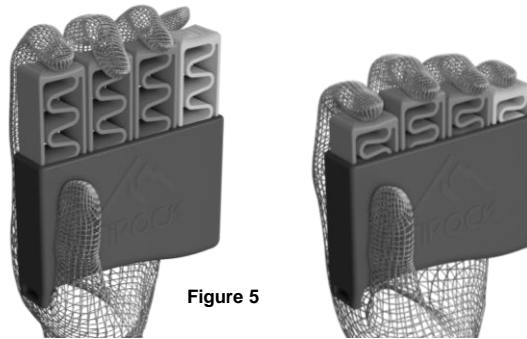

Figure 5
**Figure 7: Various exercises and training routines** can be found at <https://www.tirock-sports.com/ti-hand> or simply scan the QR code. In the archetypal training application, the finger trainer is held and used as shown in Figure 5.